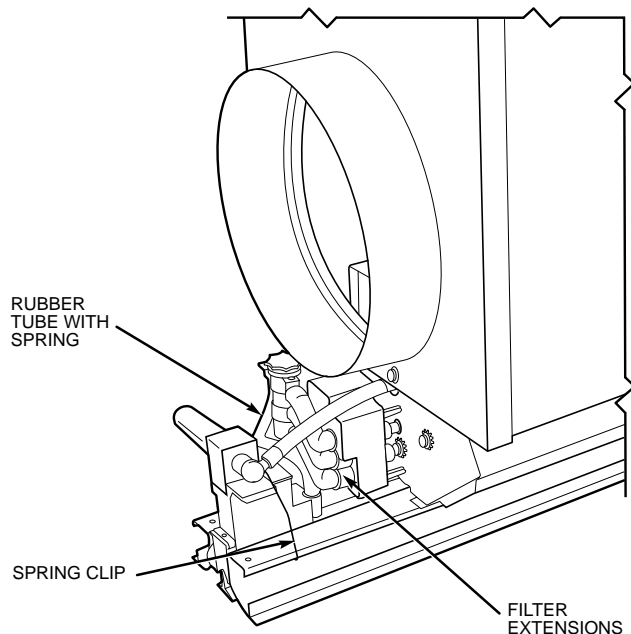

Fig. 11 — 37HS Variable Air Volume Control Installation
12. Remove cap from the aspirator supply port on the unit control block. Remove 5 $\frac{1}{2}$ -in. plastic tube attached to the aspirator and replace it with 4 $\frac{3}{8}$ -in. length. Connect the aspirator supply tube to the control block connection. Figure 11 shows the completed installation.